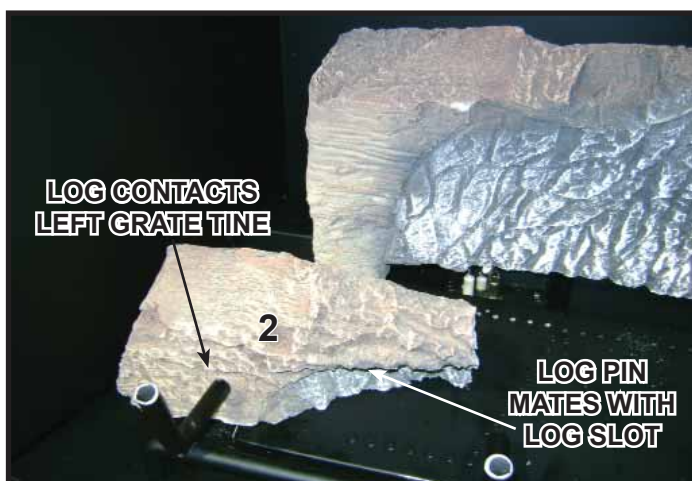
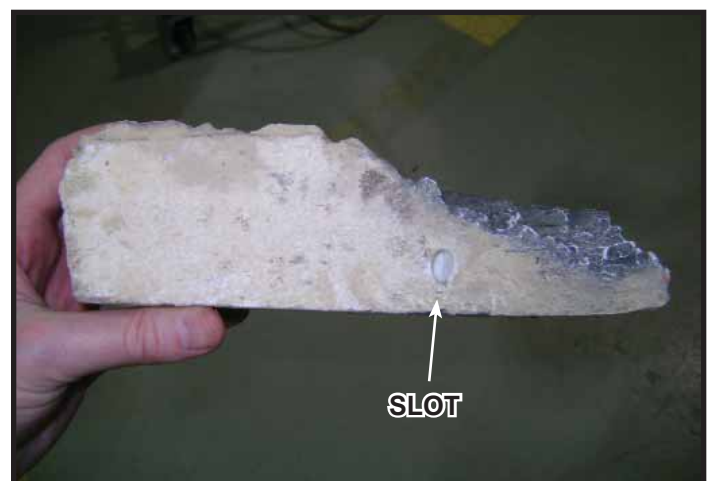

Figure 4. Log #2
Figure 5. Log #2
**Log #2 (SRV2224-706):** Position Log #2 as shown in Figure 4. Refer to Figure 2 and Figure 5 for additional details. Mate the slot located on the bottom of Log #2 with the left log pin located on the burner top. Rotate the left end of Log #2 forward until it comes into contact with the left grate tine.